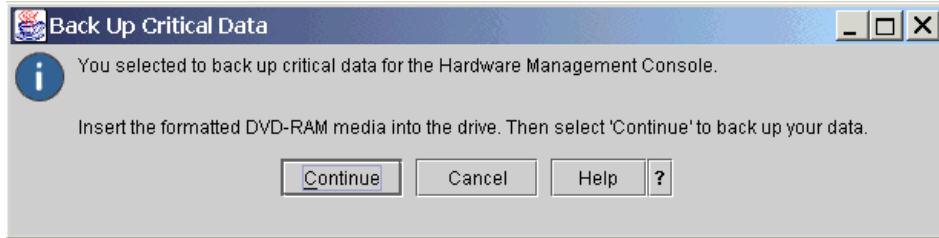

Figure 5-14 Backup Critical Data
3. Select **Backup Critical Console Data** to back up the data onto the DVD RAM (see Figure 5-14).